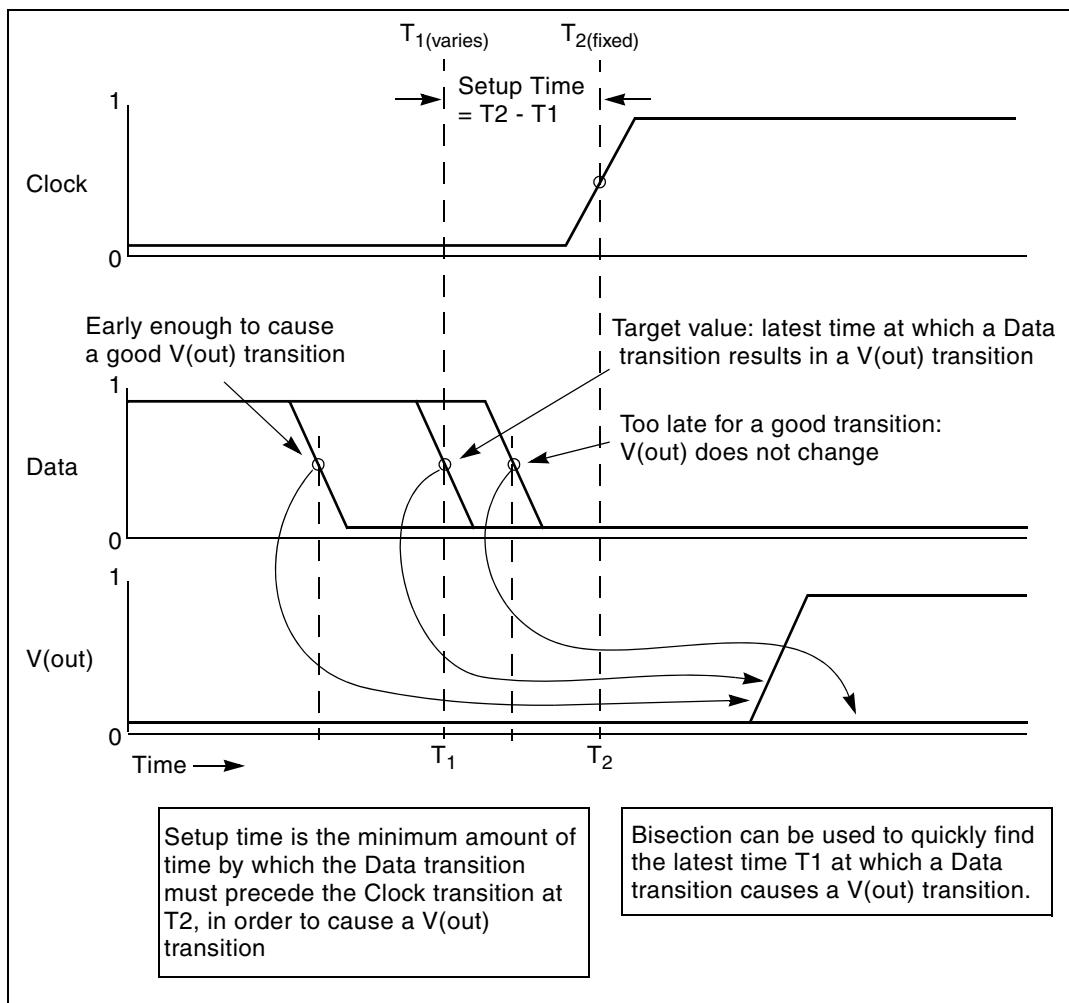

Figure 178 Determining Setup Time with Bisection Violation Analysis
Figure 178 on page 897 shows a typical analysis of setup-time constraints. Clock and data input waveforms drive a cell. Two input transitions (rise and fall) occur at times T_1 and T_2 . The result is an output transition, when $V(\text{out})$ changes from low to high. The following relationship between the $T_1(\text{data})$ and $T_2(\text{clock})$ times must be true for the $V(\text{out})$ transition to occur: $T_2 > (T_1 + \text{setup time})$.
- Automatically varying the input parameter (T_1 in Figure 178 on page 897) to find the value for which the transition barely occurs.
Figure 179 on page 904 shows an example of the binary search process that the bisection algorithm uses. This example is the pass/fail type, and is appropriate for a setup-time analysis that tests for the presence of an output transition. In the example depicted in Figure 178 on page 897 note that:
4. The bisection algorithm performs tests for each specified boundary value to determine the direction in which to pursue the target value, after the first bisection. In this example shown in Figure 178 on page 897, the upper boundary has a pass value and the lower boundary has a fail value.